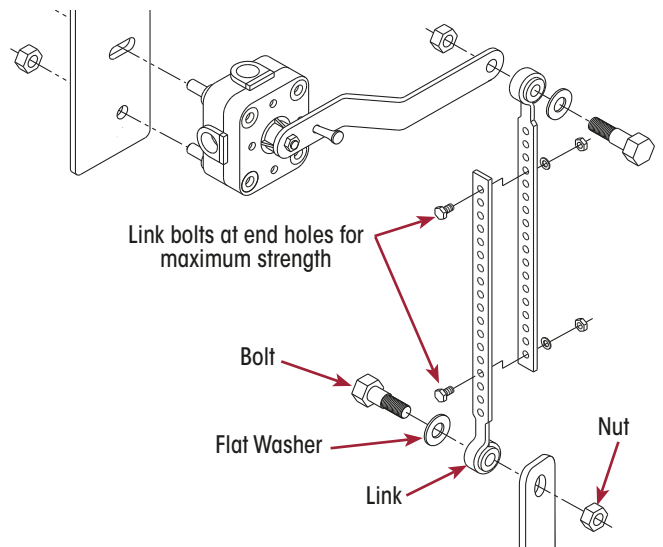

Figure 181: HCV Link Installation
- Install link bolts correctly with the washer and bolt head on the link side, and the nut against the lower bracket or HCV arm. Refer Figure 181.